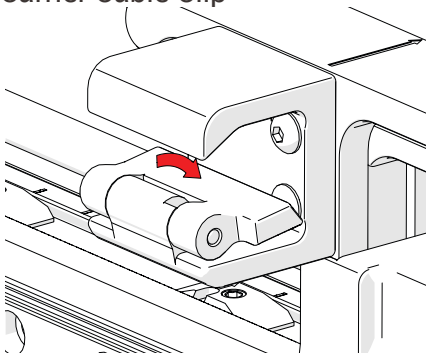
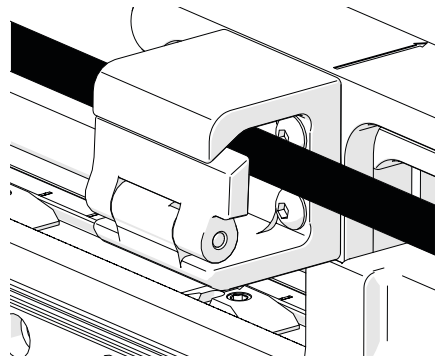

Fig. 21 - Carrier cable clip flap
Fig. 22 - Carrier cable clip
1. Push the cable clip flap down (*Fig. 21*) to insert the necessary cables and hoses (*Fig. 22*).